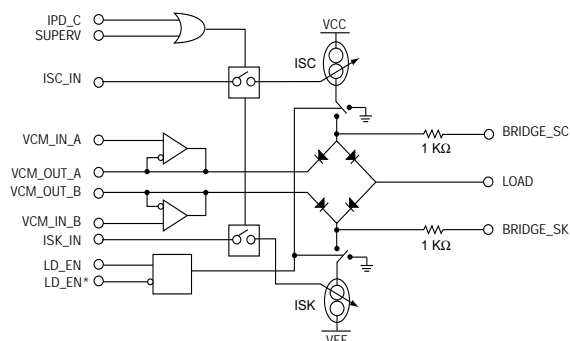

Figure 12. Functional Schematic of the Edge720's Load Circuit
The Edge720 features a programmable load circuit which is capable of sourcing or sinking up to 35 mA over a $-1V$ to $+12V$ range, or being placed in a high impedance state. This circuit also features “split” commutating voltage inputs that allow it to be configured as a programmable voltage clamp. In addition, the BRIDGE_SC and BRIDGE_SK pins allow the load circuit’s diode bridge to be connected to external current sources for increased low current accuracy. A functional schematic of the Edge720’s load circuit can be seen below in Figure 12.
ISC_IN and ISK_IN are independently adjustable analog current inputs that control the amount of current being supplied to the diode bridge by the on-chip current supplies (see Figure 12). Consequently, these inputs can be used to program the amount of current being sourced (ISC_IN) or sunk (ISK_IN) at the load circuit output pin (LOAD). The on-chip current supplies have been designed to have a nominal gain of 20. Therefore, the magnitude of current sourced or sunk is equal to the magnitude of the control current scaled by a factor of 20. The ISK_IN and ISC_IN current programming inputs should be routed on a PCB such that coupling between the control inputs and the LOAD, VCM_OUT_A and VCM_OUT_B pins is minimized. Finally, it is also recommended that $1\text{ k}\Omega$ of external series resistance be connected between these inputs and the source controlling them. A group E DAC on the Edge6420 offers a nice solution to controlling these inputs.
VCM_OUT_A(B) are connected to the outputs of the on-chip commutating buffer, whose output voltages are determined by VCM_IN_A(B) (see Figure 12). The connection scheme of these pins will determine the configuration of the Edge720 load circuit. This allows the Edge720's load circuit to be quite versatile in that it can be configured in multiple ways.
The Edge720 features two pins, BRIDGE_SC and BRIDGE_SK, which allow access to the top and bottom of the diode bridge through 1 k Ω series resistors (see Figure 12). These pins can be connected to external current sources whenever it is desired to use sources that are more accurate than the on-chip sources. Connecting these pins may degrade the high impedance characteristics of the load when it is not enabled unless isolation relays are used to isolate the external current sources from the diode bridge.